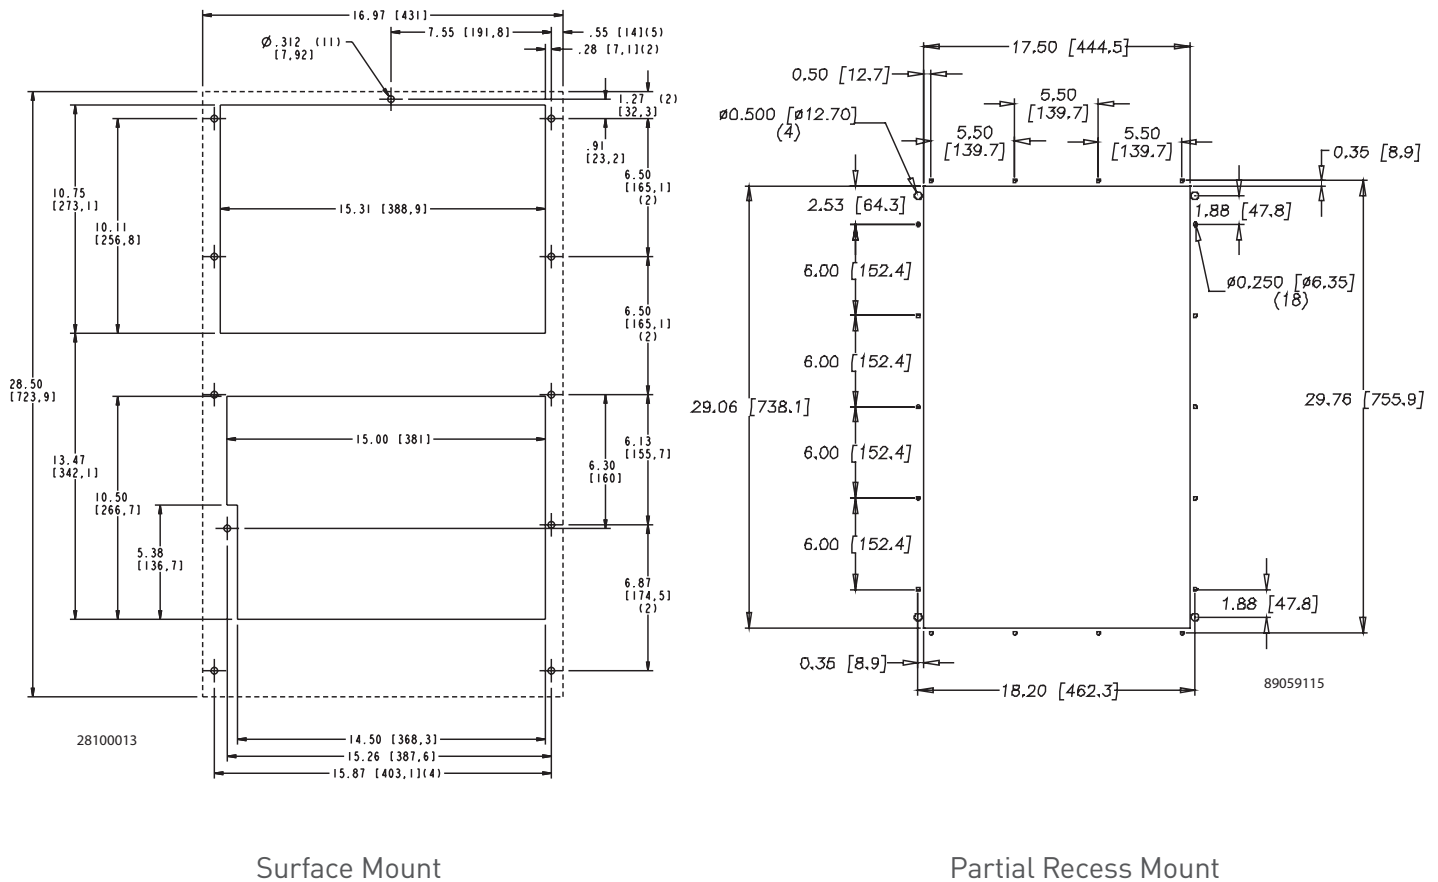

Figure 1
2. Using the mounting gasket kit provided with the unit, install gaskets to the air conditioner, see Figure 1.
4. Allow unit to remain upright for a minimum of five (5) minutes before starting. **CAUTION!** Air conditioner must be in upright position during operation.